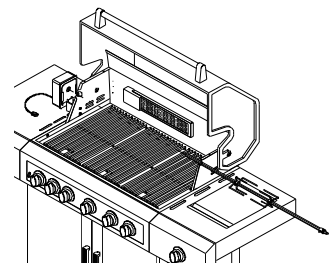

Fig.4
4. Place spit rod into the motor, make sure rotisserie rod aligns with the motor correctly (See Fig.4).